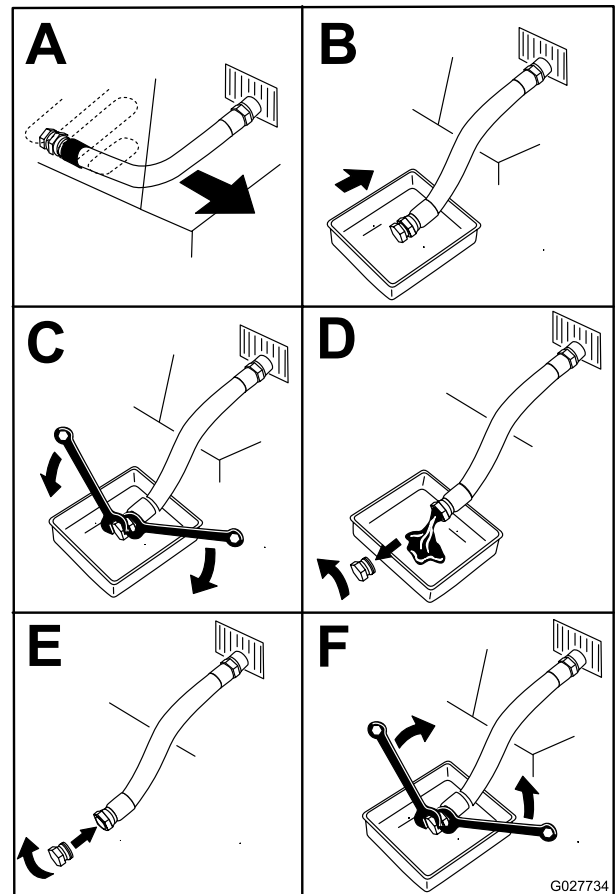

Figure 50
4. Stop the engine, remove the key, and wait for all moving parts to stop before leaving the operating position (Figure 50).